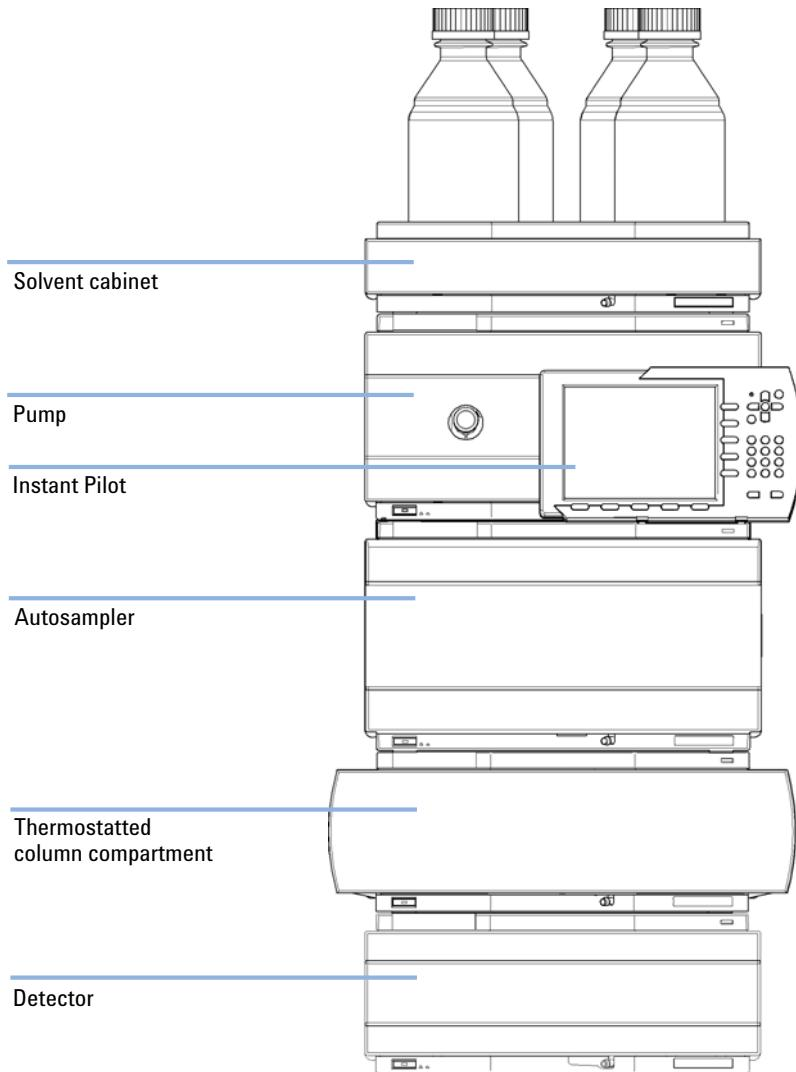
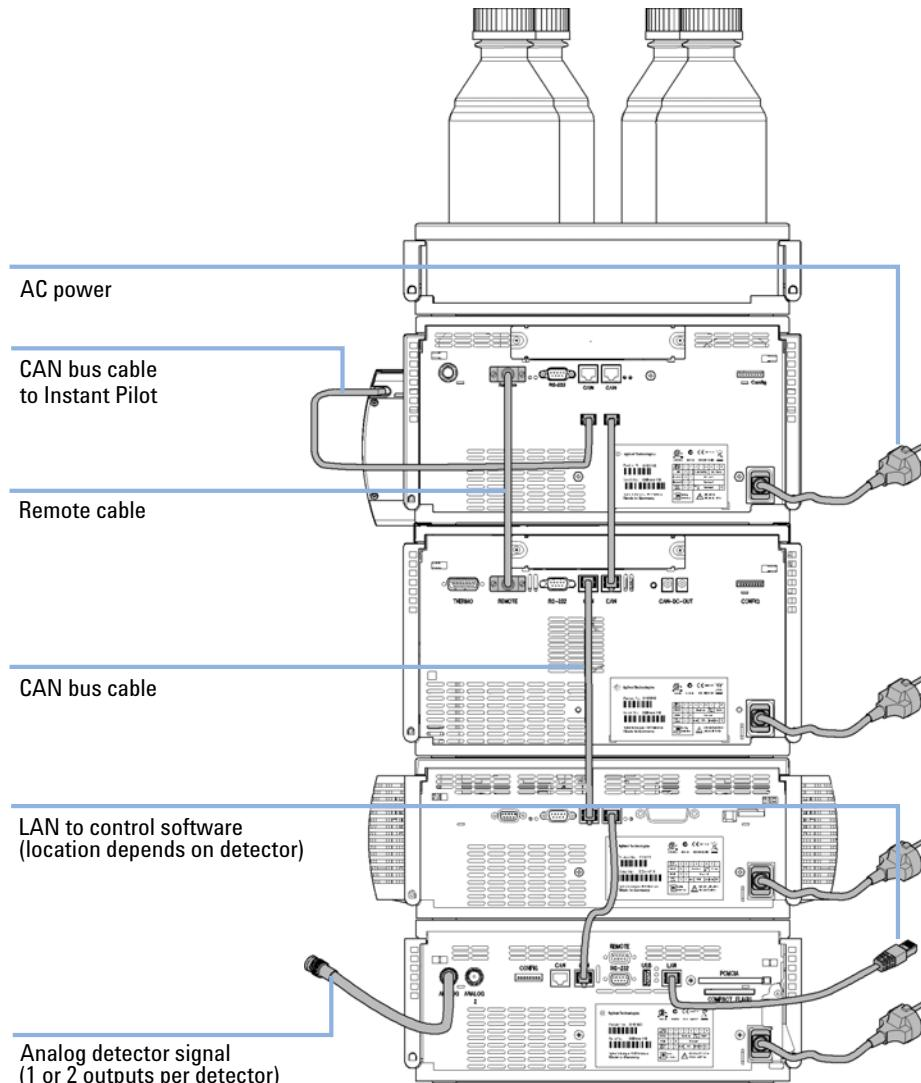

Figure 7 Recommended Stack Configuration for 1260 Infinity (Front View)
Figure 8 Recommended Stack Configuration for 1260 Infinity (Rear View)
Ensure optimum performance by installing the modules of the Agilent 1260 Infinity LC System in the following configuration (see Figure 7 on page 39 and Figure 8 on page 40). This configuration optimizes the flow path for minimum delay volume and minimizes the bench space required.
- 1 Place the individual modules in a stack configuration as shown in Figure 7 on page 39.
- 4 Connect the CAN cable to the CAN connector of the next module, see Figure 8 on page 40.